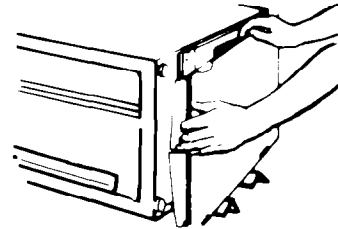

FIGURE 6
6. Lay two carton corner posts or other protective material (such as a throw rug) on the floor; then lay the unit on either of its sides on the corner posts. The corner posts will protect the finish of the compactor and the floor. See Figure 6. *NOTE: Do not truck or handle by console.*
Remove the cardboard shipping pad located on the bottom. See Figure 6.